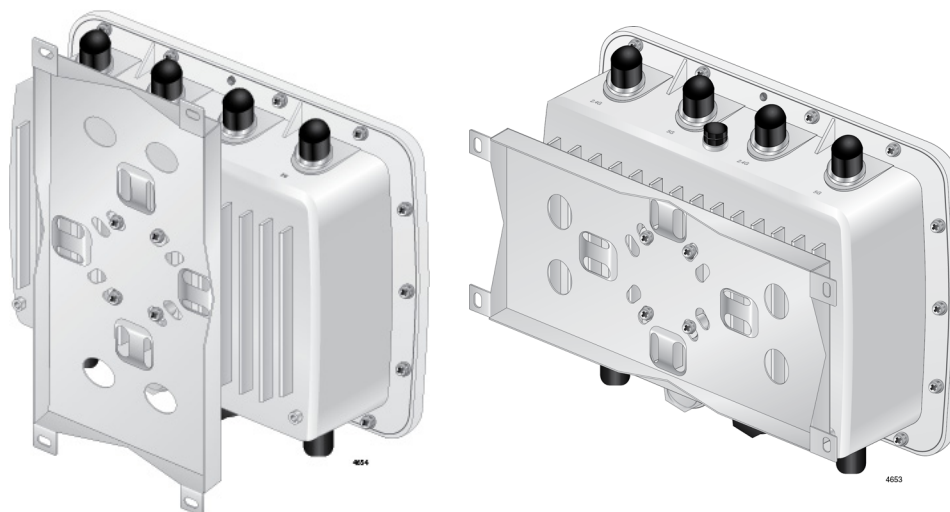

Figure 12. Two Orientations of the Mounting Base
- ☐ The access point must be installed the front panel down as shown in Figure 12.
- ☐ The mounting base can be in a vertical or horizontal position. See Figure 12 on page 37.
The mounting base can be in a vertical or horizontal position. see Figure 12.